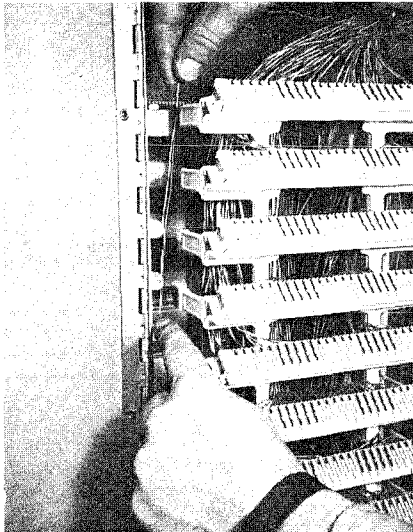

Fig. 6 — Routing Jumper Wire
4.02 Route one end of the jumper wire ("Z" Cross-Connecting Wire) down and behind the wiring channels in the "OUT" cable field. (See Fig. 6.)